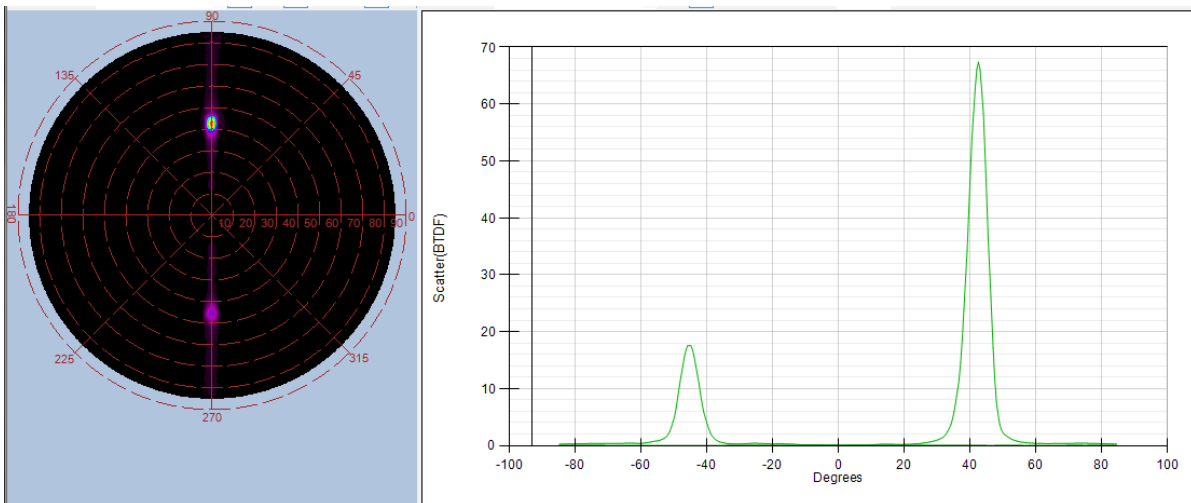

Figure 4, Measured BTDF SerraGlaze sample above.
- A physical sample of the film was sent to an accredited laboratory where detailed measurements were made. A result called a Bi-directional Transmittance Distribution Function (BTDF) was obtained. Meanwhile, we developed a simulated goniometer. This is a computer model of a device that measures the energy of reflected optical rays as a function of input and output angles. The correlation between our simulation and the lab’s measured results are excellent. See figures 4 and 5.